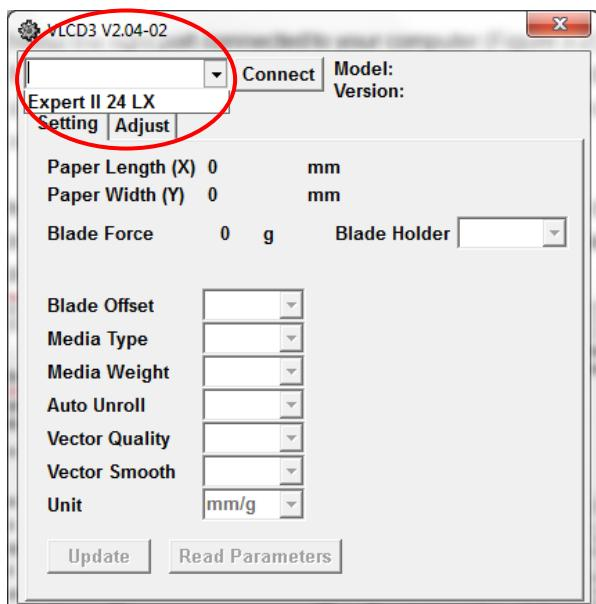

Figure 3-2
**Step 3** Choose the right port connected to your computer (Figure 3-2).